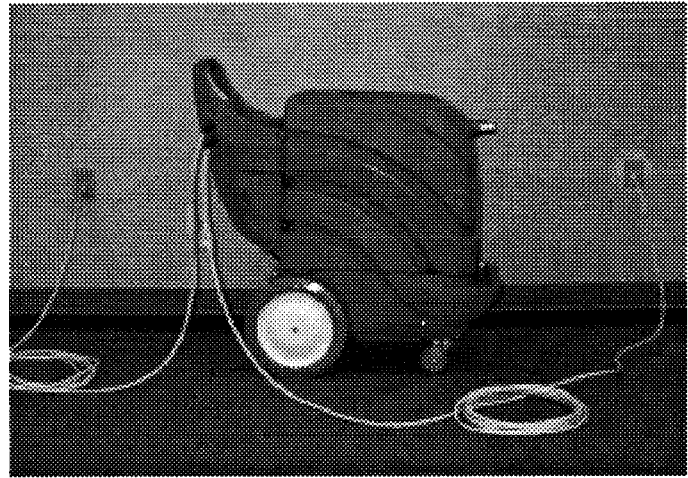

Fig. 2
2. Plug (2) 25' extension power cords to machine.
3. Plug each extension cord into a separate circuit. (Figure 2)